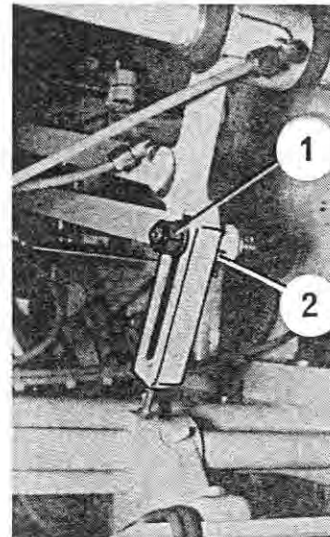

Fig. 162
1.1 Loosen the hex nut (Figure 162/1). Adjust the pointer (Figure 162/2) of the control rod to the lever mark which corresponds to the format. Tighten the hex nut.